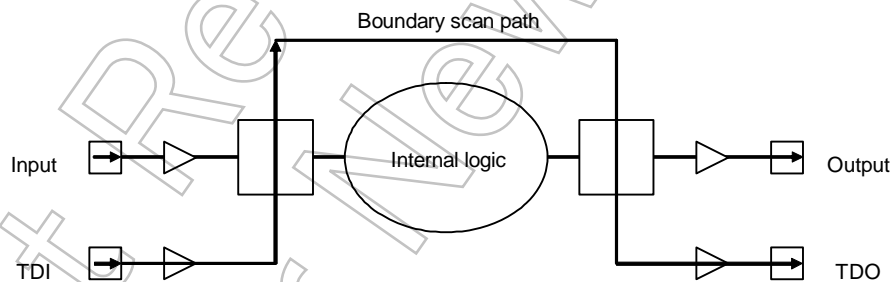

Fig. 20.10 Flow of Test Data While PRELOAD Is Selected
- The PRELOAD instruction is used to initialize the boundary scan register before selecting other instructions. For example, the boundary scan register is initialized using PRELOAD before selecting the EXTEST instruction, as previously explained. PRELOAD shifts data into the boundary scan register without affecting the normal operation of the system logic. Fig. 20.10 shows the flow of data while the PRELOAD instruction is selected.